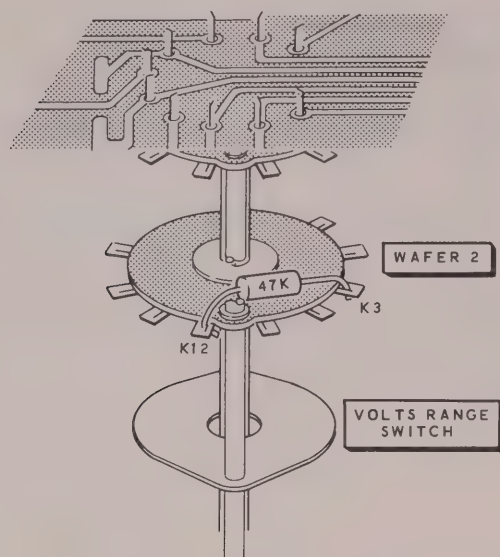

Figure 3
1. ( ) Connect the positive test lead of the DC voltmeter to lug 3 on wafer 2 of VOLTS Range switch K. See Figure 3.
- 1A ( ) Set the Solid State VOM test probe switch to the DC position; then touch the tip of the probe to lug 12 on wafer 2 of VOLTS Range switch K. (See Figure 3.) Carefully observe the meter reading on the 5 volt scale.